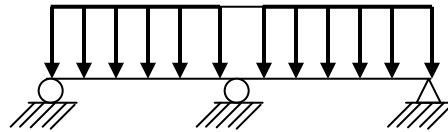

Figure 2.3
3. Continuous beam - Figure 2.3